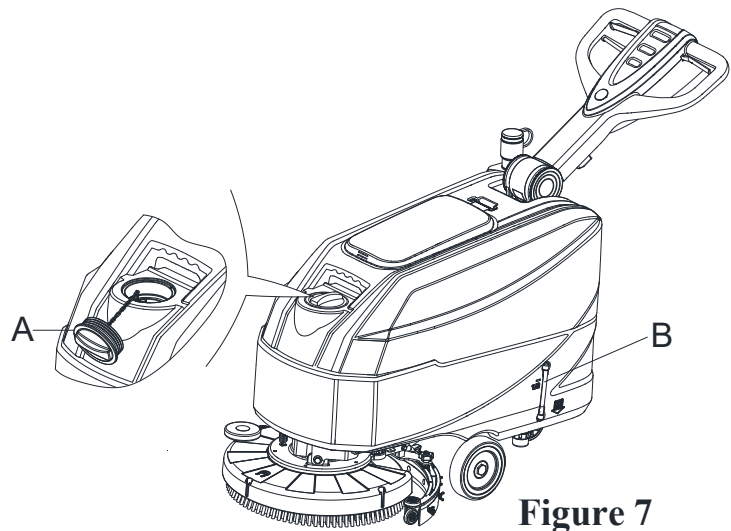

Figure 7
1. Open the water inlet cover (A, Figure 7).
3. Do not overfill the tank, refer to water level indicator (B, Figure 7) for the water volume.